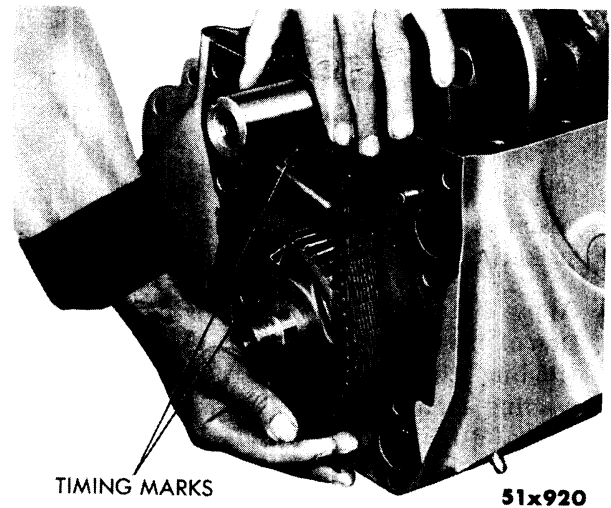

Fig. 105—Installing Timing Chain and Camshaft Gear
- (3) Remove the camshaft gear and engage with timing chain. Place timing chain over crankshaft gear and, at the same time, slide the camshaft gear over the end of camshaft, keeping the timing mark in position, as shown in Figure 105.